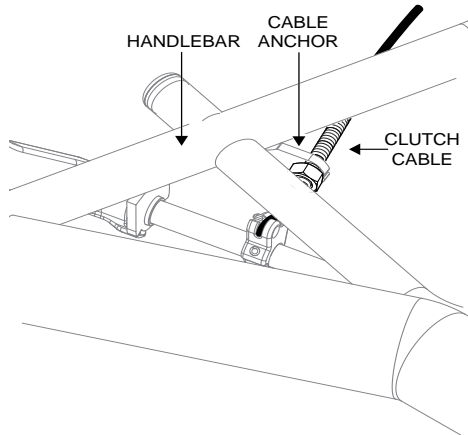

Figure 13. Handlebar Clutch Cable Anchor
2. Check that the clutch cable (Figure 13) is attached to the handlebar cable anchor.